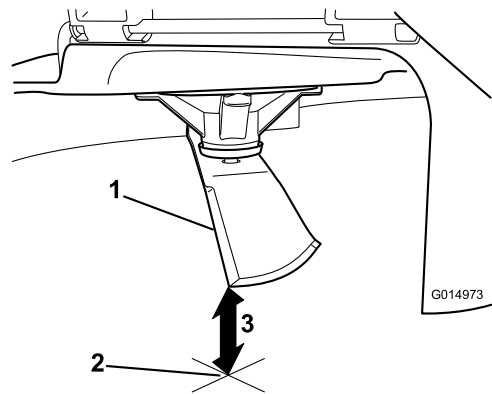

Figure 49
5. Measure from the tip of the blade to the flat surface (Figure 49).